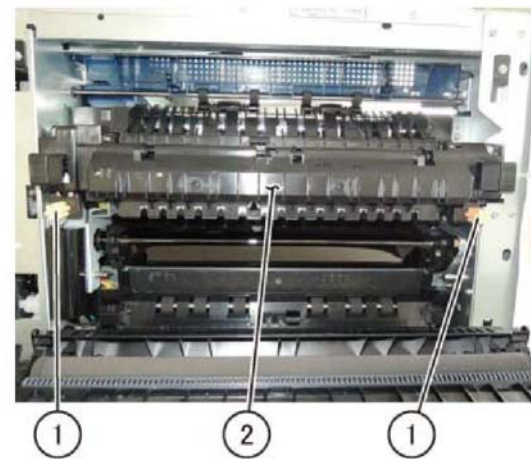

Figure 1 Fuser removal
2. Remove the fuser, Figure 1:
- a. Loosen two screws (1).
- b. Remove the fuser (2).